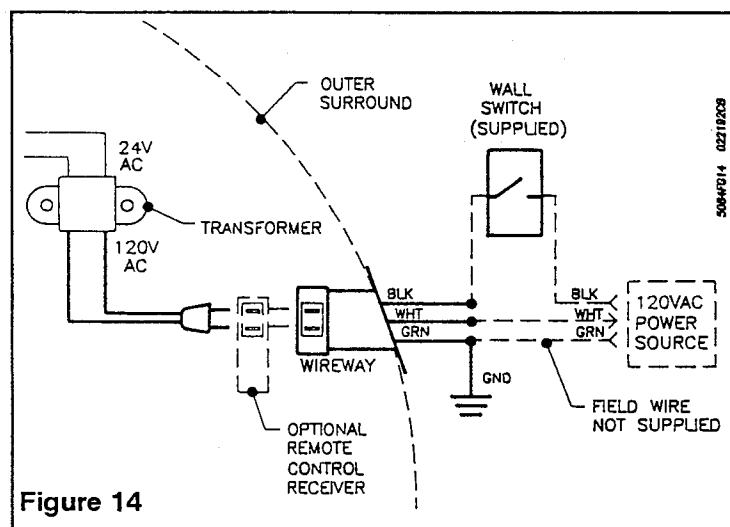

Figure 14
2. Using the 20ga. wires, coming out through strain relief grommet on the right side of the appliance's outer wall, connect to 120vac regular household current through a wall switch (provided) per **Figure 14**.